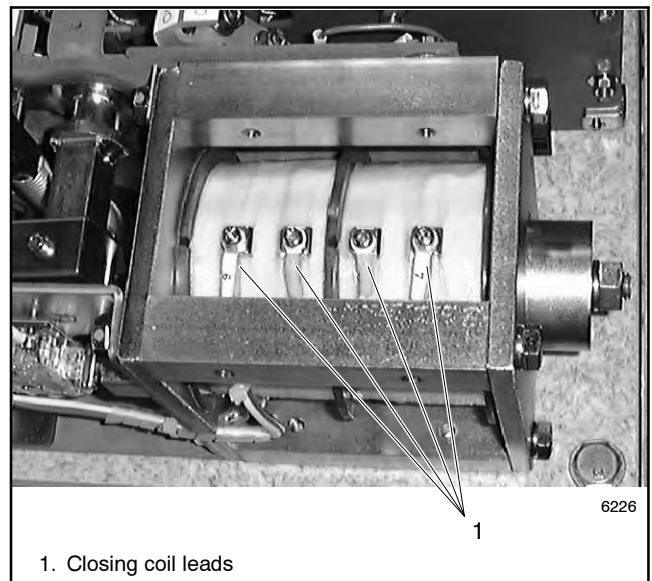

Figure 7-29 Closing Coil Connections
2. Note the connections shown in Figure 7-29 and disconnect the closing coil leads at four locations.
- d. Reconnect four leads shown in Figure 7-29.